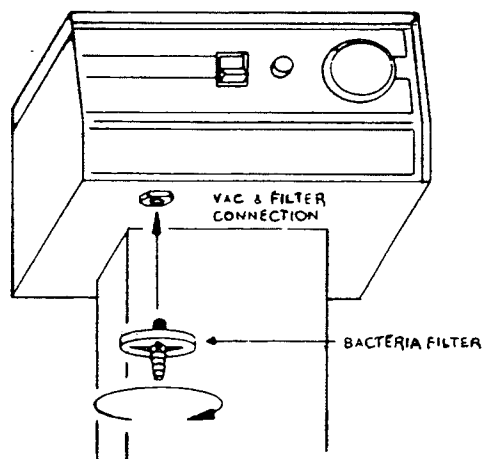

Figure 1
- 3.1 **Bacteria Filter** (See Figure 1):